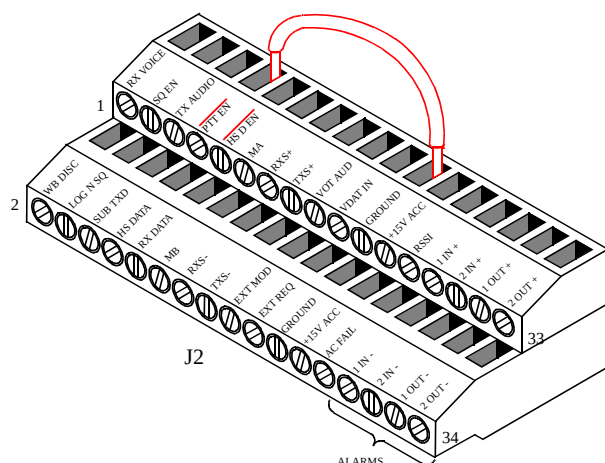

Figure 7-9 J2 - PTT JUMPER
4. Use a jumper wire to ground pin 7 (PTT_N) to pin 21 (GND) on J2 on the back of the cabinet (see Figure 7-9). The transmitter should key up and achieve rated power.